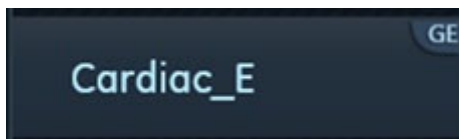

Figure 12-68. Factory preset
*Any preset name which contains the GE tab in its top-right corner (see example in Figure 12-68) is a "factory preset" which cannot be modified.*